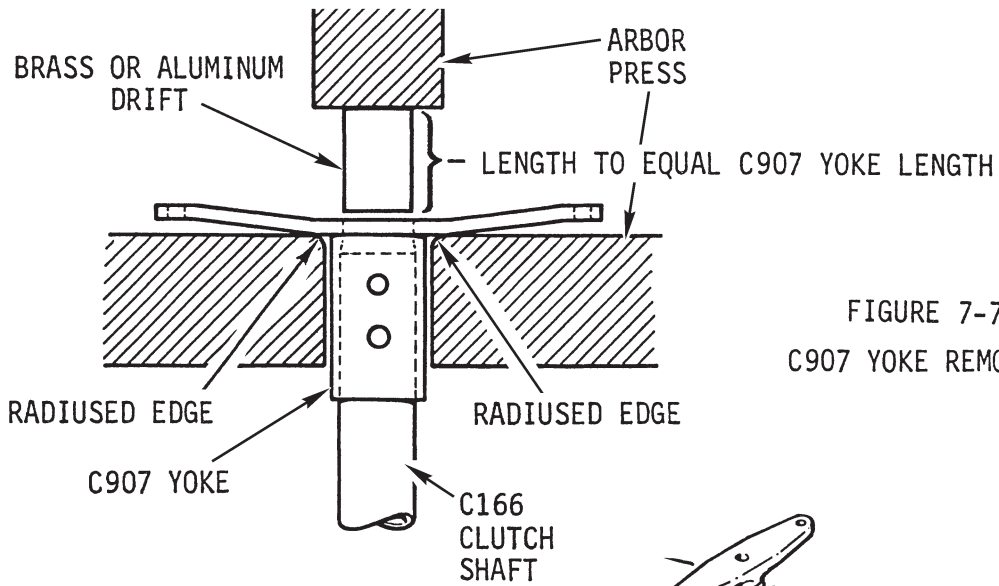

FIGURE 7-7
- a. (Preferred method). If press is available, position clutch assembly in press per Figure 7-7. Ensure brass or aluminum drift fits against outer rim of clutch shaft and not against inner spacer. Press clutch shaft out of yoke.